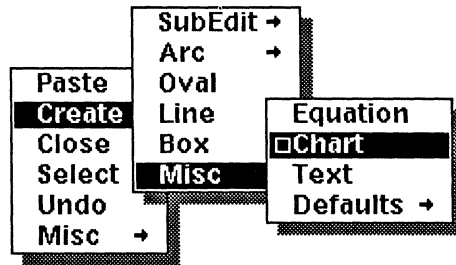

Figure 28-4. Create Misc submenu of the Diagramming Nothing Selected popup menu
- You can execute the **Chart** command on the **Create Misc** submenu of the **Diagramming Nothing Selected** popup menu (Figure 28-4).